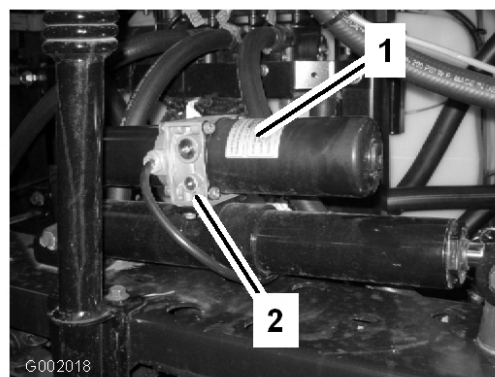

Figure 60
1. Locate the manual relief valve on the actuator for each boom. The manual relief valve is the smaller valve and is only on one side of the actuator body (Figure 60).